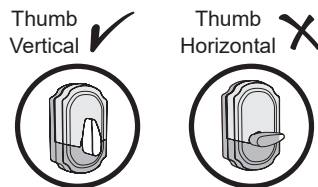

Fig. 8
Step 5. Adjust the thumb turn of the inside section to VERTICAL position (Fig. 8)